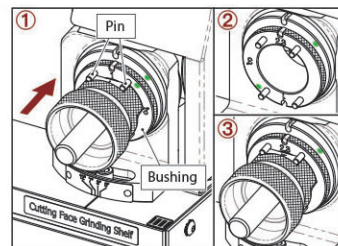

Fig. 8-3
3. 3 Flute Cutting Face Grinding (III) (Fig. 8-3)
- ① Insert the chuck set into the bushing on the Shelf (III), align Slot No.1 to the two pins where marked as No.1, push the chuck set gently until the grinding noise stops.
- ② Take the chuck set out, turn the bushing to No.(2 · 3), align No.(2 · 3) to the pin on the shelf, then insert it to the end.
- ③ Insert the chuck set into the bushing, align Slot No.2 to the two pins where marked as No.(2 · 3), push the chuck set gently until the grinding noise stops. Turn the chuck set to grind the Slot No.3 in the same way.